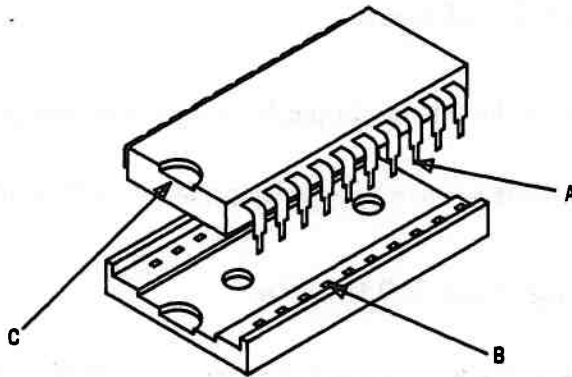

Figure 3-56. Inserting ROM Chip into the Socket
2. Align the ROM chip pins (A) with a socket (B) (Figure 3-56). Make sure that the notch in the chip (C) is facing the same direction as the other chips on the board. Push chip down firmly to insert.